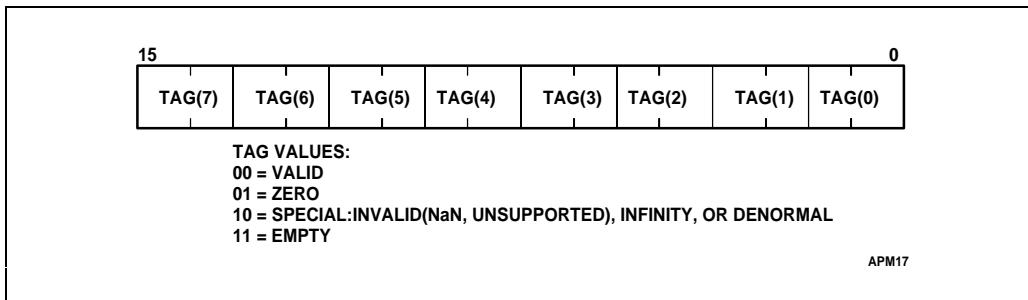

Figure 6-4. Tag Word Format
The tag word (TW) indicates the contents of each register in the register stack, as shown in Figure 6-4. The TW is used by the FPU itself to distinguish between empty and nonempty register locations. Programmers of exception handlers may use this tag information to check the contents of a numeric register without performing complex decoding of the actual data in the register. The tag values from the TW correspond to physical registers 0–7. Programmers must use the current top-of-stack (TOP) pointer stored in the FPU status word to associate these tag values with the relative stack registers ST(0) through ST(7).